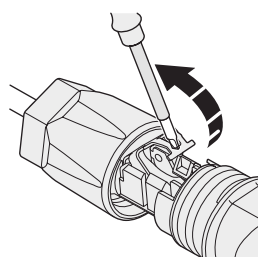

Fig. 31. Opening the retaining bracket.
3. Use a flat head screwdriver to open the retaining bracket on the connector, as shown in Fig. 31.